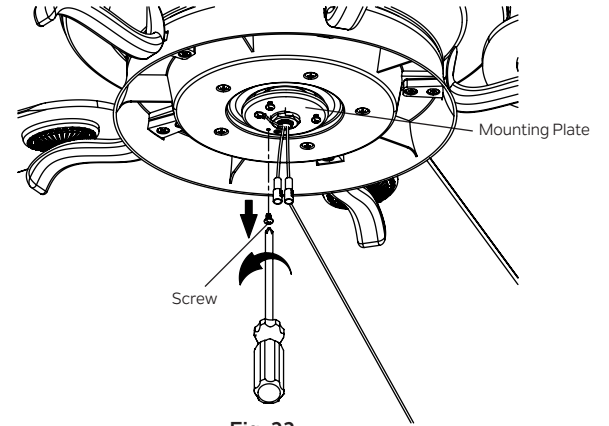

Fig. 22
**Step 1.** Remove the screw marked with a brown dot label on the mounting plate and keep for later use. Loosen the other two (do not remove).(Fig.22)